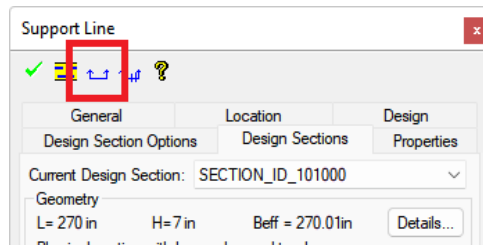

FIGURE 9-130
- Click on the **Create Support Line Elevation** icon as marked in **FIGURE 9-130**.